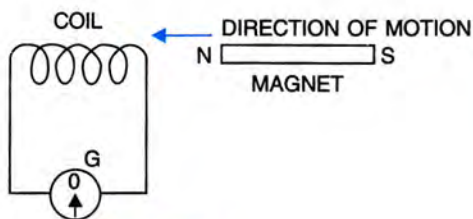

Fig. 10.44
16. The diagram in Fig. 10.44 shows a fixed coil of several turns connected to a centre zero galvanometer G and a magnet NS which can move in the direction shown in the diagram.